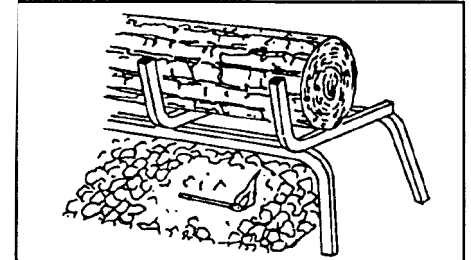

Figure 8. Lighting the log set
- D. Wait five (5) minutes to clear out any gas. If you then smell gas, STOP! Follow "A" in the safety Information above on this label. If you don't smell gas, go to the next step.
- E. Place a burning match on the surface of the burner embers (See Figure 8) **Do not hold match in hand.** Turn your manual gas valve counterclockwise  the ON position.